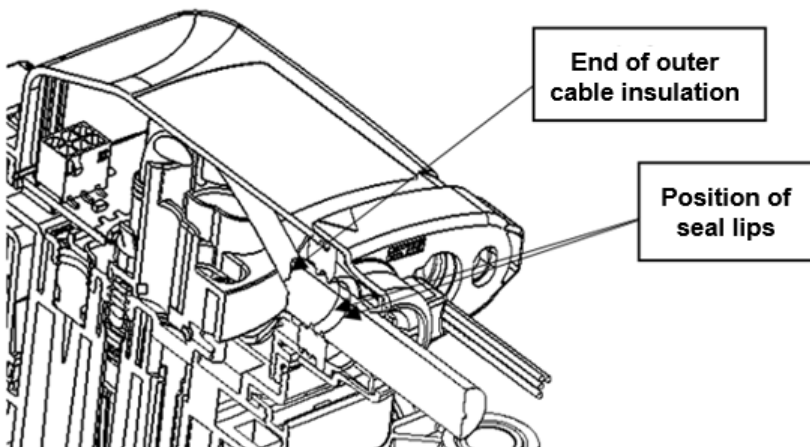

Figure 29
**ATTENTION:** Ensure that the AC-Multicore cable is well positioned in the FAMILY SEAL, that all seal lips are safely placed on the outer isolation of the cables. (Figure 29)